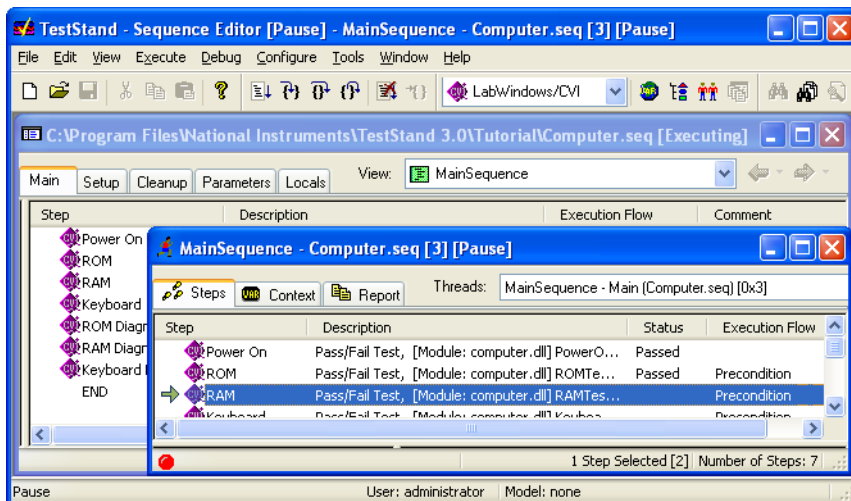

Figure 4-4. Execution Window
1. Select **Execute»Run MainSequence**. The sequence editor launches the Execution window, as shown in Figure 4-4.